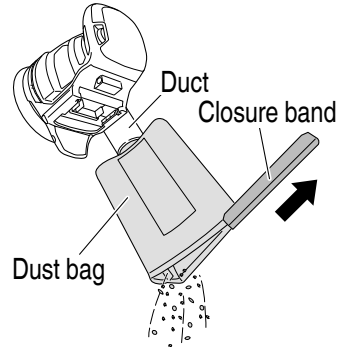

Fig. 16
1. **Emptying and cleaning the dust bag (Fig. 16)**